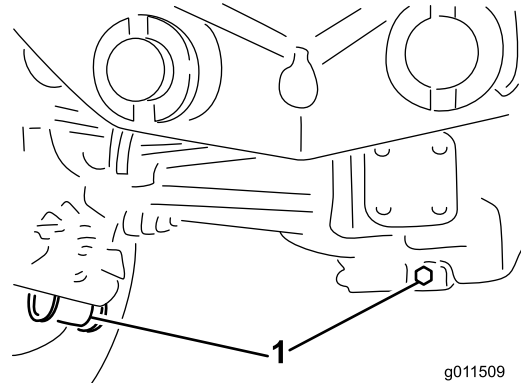

Figure 109
2. Clean the area around the 3 drain plugs; 1 on each end and 1 in the center (Figure 109).